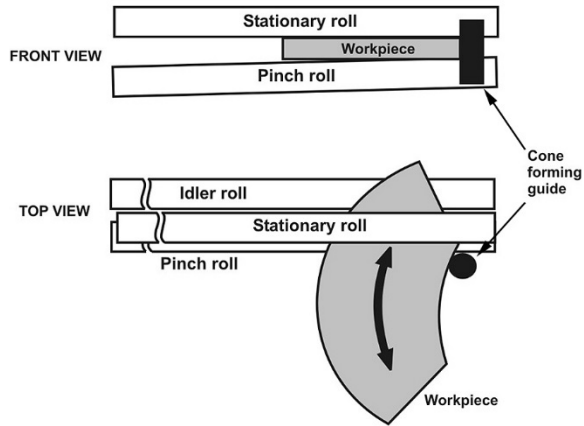

Figure 10-8: cone forming
3. Slide workpiece against cone forming guide (Figure 10-8) and tightly clamp workpiece at right end. Proceed with forming operation.